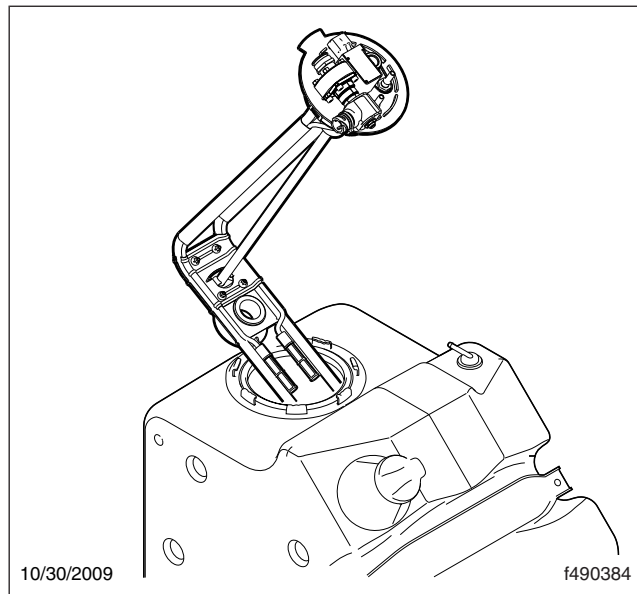

Fig. 9, Header Unit
14. Rotate the header lockring counter-clockwise to loosen it, then remove the lockring. See Fig. 9.
15. Remove the DEF header unit from the tank by pulling the assembly straight up. Then, tilt it to pull the horizontal end out of the tank. See Fig. 9.